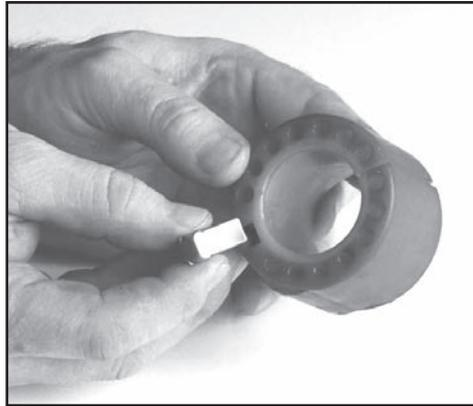

**FIG. 40: REMOVE CONTROL STUD**
2. Pull out the control stud (see Fig. 40).